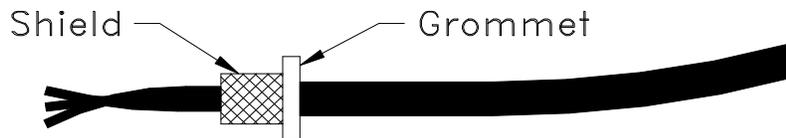

Figure 6-7 Cable Shield Termination
- Strip back about 1¼" of the cable jacket and push the braided shield back over the rubber grommet. Refer to Figure 6-7.